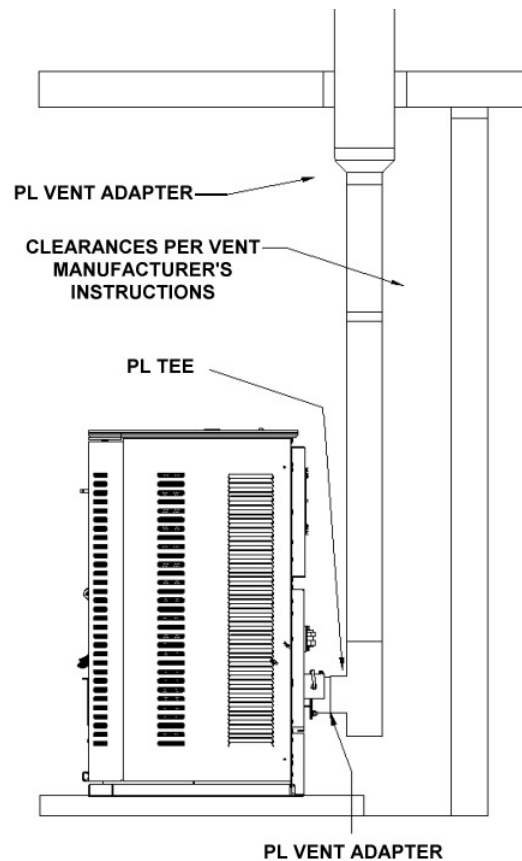

Figure 8
4. When venting into a Class A steel chimney, use an appropriate PL Vent adapter. (Figure 8)